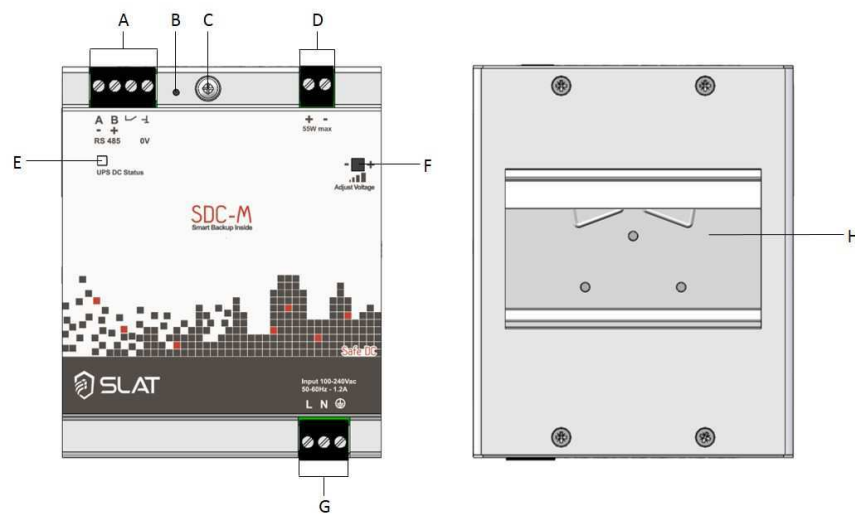

Figure 4.2: Product view
- For prolonged storage or disconnection, switch off the mains then press the stop button back-up function. (see on Figure 4.2 in chapter 4.4: Disconnect backup push-button)